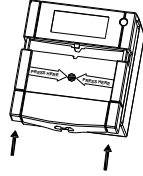

Fig. 7: Replacing the front face
- Clip the front face onto the body (see Fig. 7).